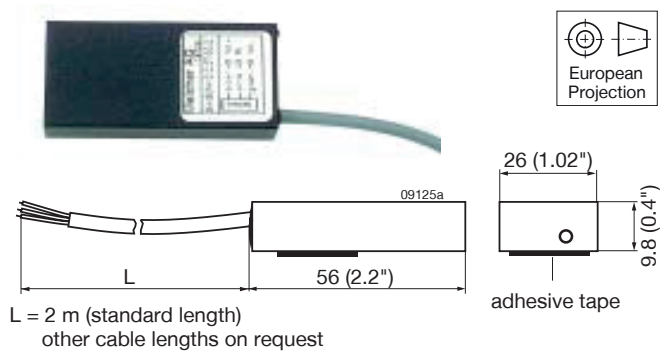

Fig. 51
- Different battery sensors S-KSMH... for using the converter as a battery charger. Different cell characteristics can be selected; see fig. 51, table 27, and *Battery Charging/Temperature Sensors*.